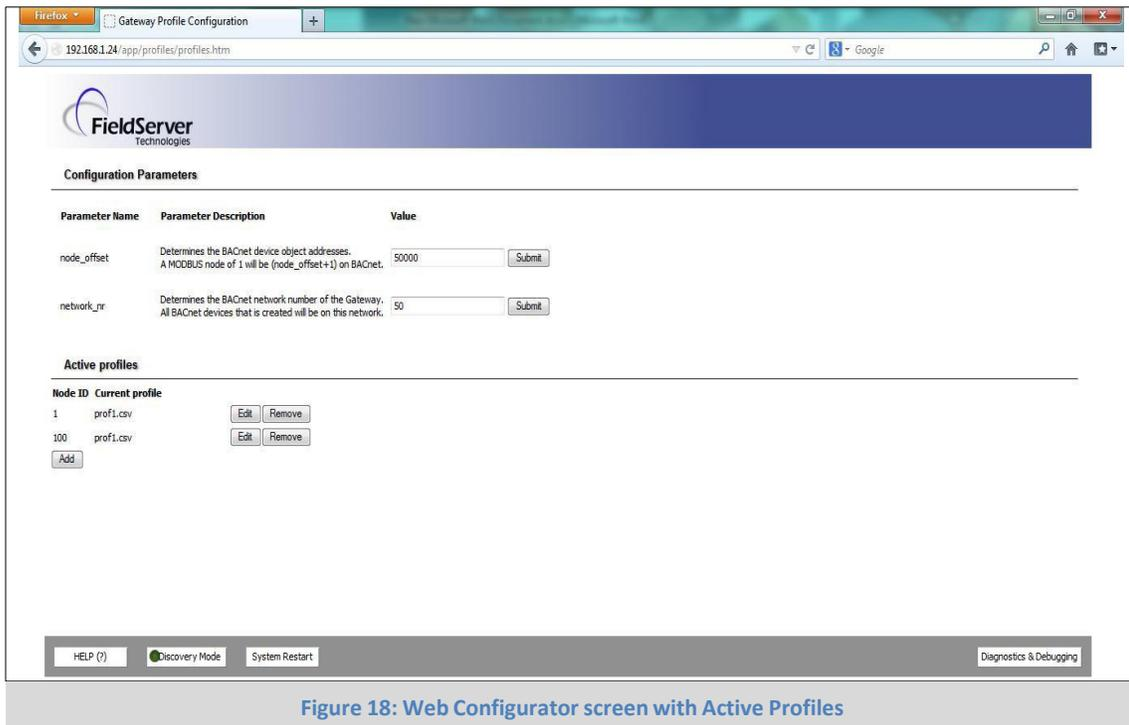

Figure 18: Web Configurator screen with Active Profiles
- The Web Configurator will be displayed as your landing page. (Figure 18)
- From the Web Configurator landing page (**Figure 18**), click on the “Diagnostics & Debugging” button in the bottom right side of the page to access the FST Web GUI.